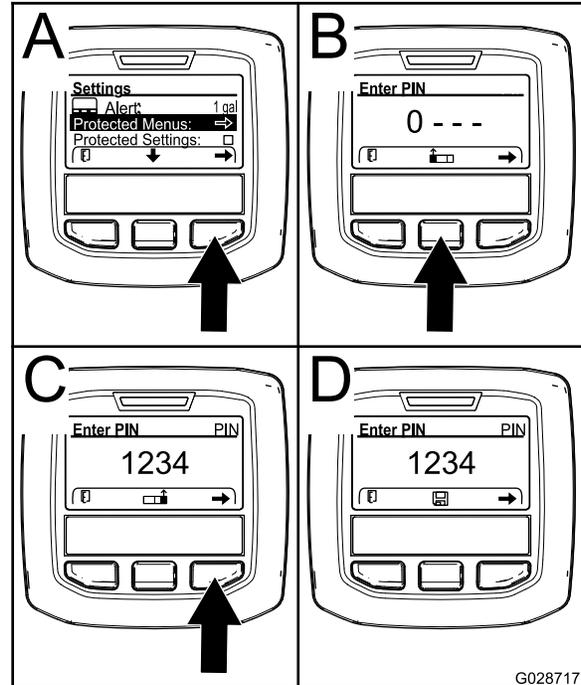

Figure 25
4. Press the right select button to select Protected Menu (A of Figure 25).
- Press the center selection button (B of Figure 25) to increase the numerical value (0 to 9).
- Press the right selection button (C of Figure 25) to move the cursor to the next numerical position to the right.
Note: The Save icon appears above the center selection button (D of Figure 25).